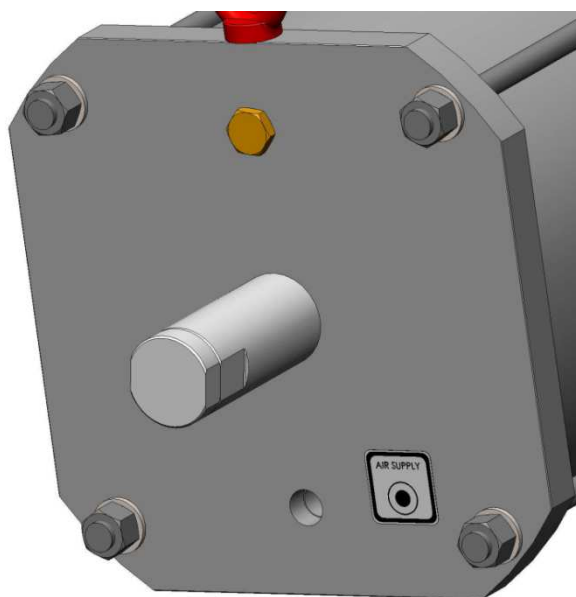

Figure 3: typical supply port marking for spring return actuators
- Figure 3 shows typical labelling for pneumatic connection on spring return actuators